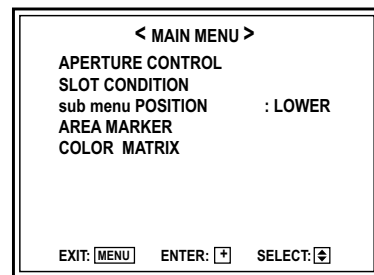

Fig. 2
- (1) Disconnect the wire clamps and connectors as required.
- (2) Remove the two screws [12] and pull the CHASSIS BASE toward the front to remove it.
- (3) While disengaging the claw [D] on the CHASSIS BASE that is engaged with the rear of the SPEAKER, lift the SPEAKER to remove it (see Fig. 2).
- (4) Remove the three screws [13] and then remove the PB BRACKET.
- (5) Unplug the S. CORRECTION PWB from the connector on the MAIN PWB.
Press the **[MENU]** key to display the MAIN MENU (Fig. 2).